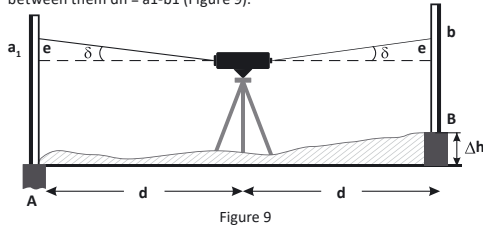

Figure 9
a) Set leveling staffs A and B at distance 50 m from each other. Set the instrument right in the middle between the staffs. Level the instrument and take the readings on the staffs A and B accordingly. Exceedence between them $dh = a_1 - b_1$ (Figure 9).